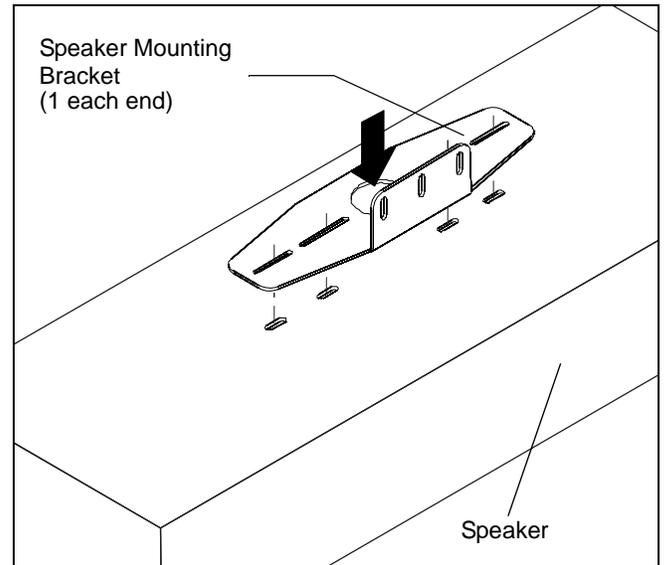
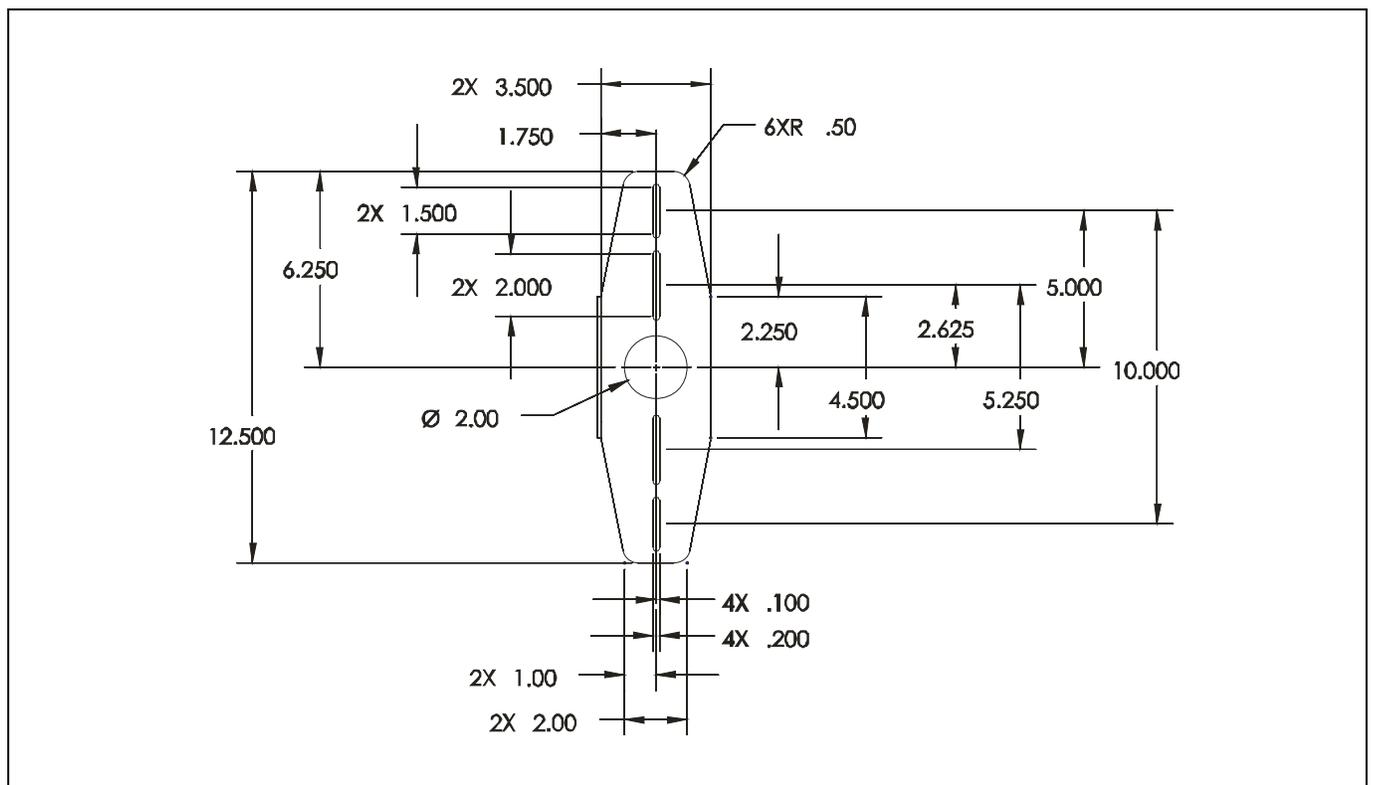

Figure 8
Figure 9
3. Install left and right speaker mounting brackets to speakers using the installation instructions provided with the speakers and the dimensional drawing below. (See Figure 8) and (See Figure 9)